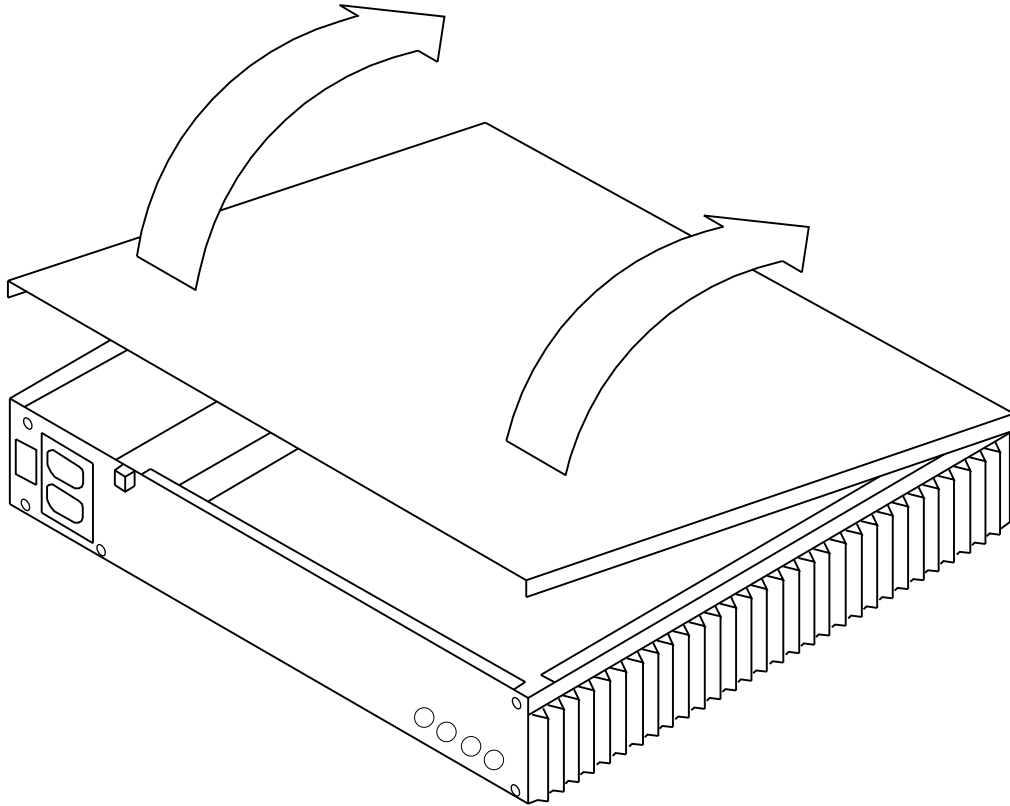

Figure D-2: Removing the Cover from a *Sun SPARCserver* Computer
5. Face the back panel, and grasp the sides of the cover. Carefully lift the back of the cover up and away from the back panel (see Figure D-2). The cover should start to swing up towards the front of the machine.